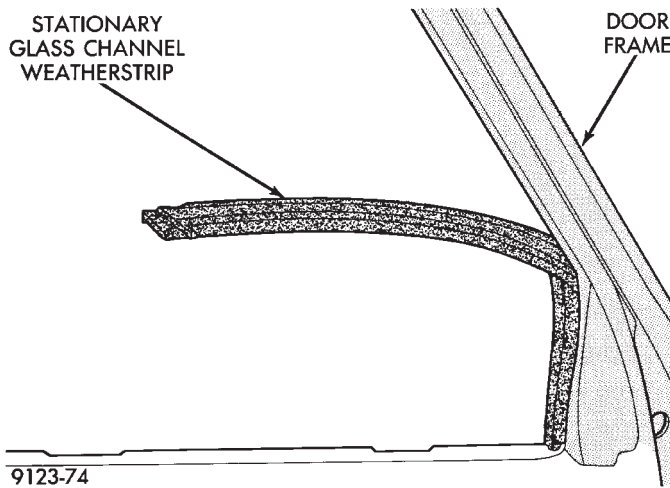

Fig. 24 Front Door Stationary Glass Channel Weatherstrip
- (1) Remove stationary glass.
- (2) Pull weatherstrip from door frame channel (Fig. 24).